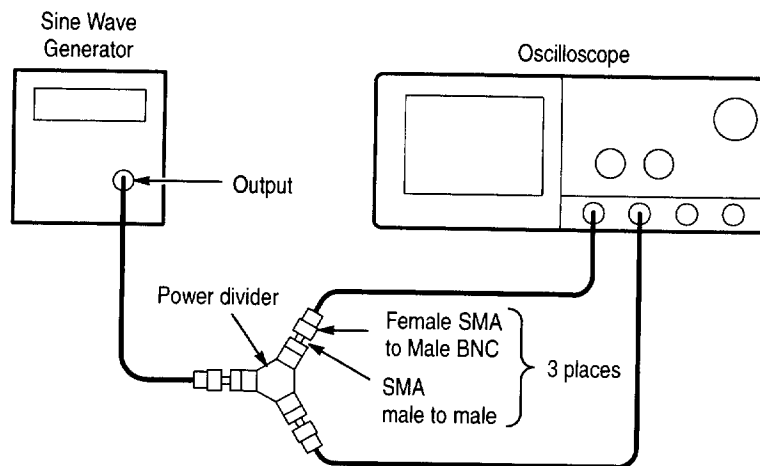

Figure 1–10: Initial test hookup
- Connect the coupler to both **CH 1** and **CH 2**. See Figure 1–10.